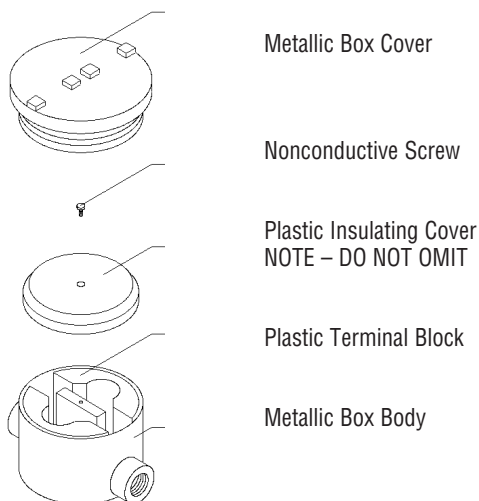

FIGURE 6
7. The plastic insulating cover must be re-installed over the terminal block and secured with the plastic screw **BEFORE** the metallic cover is screwed back on as shown in **Figure 6**.